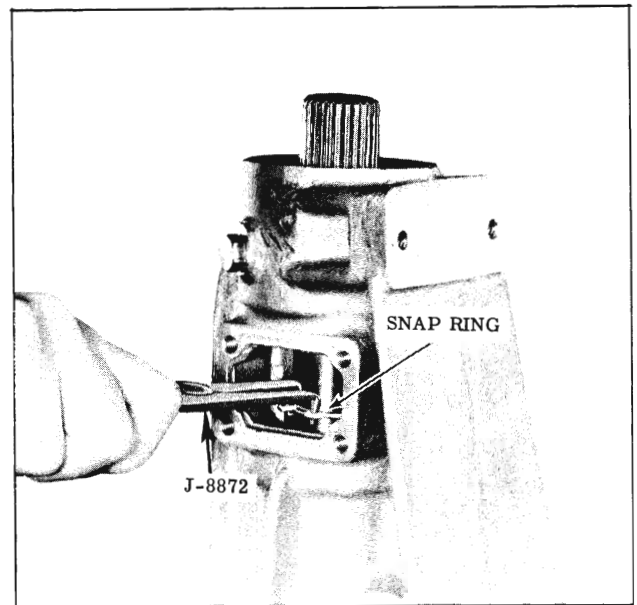

Fig. 3-107 Installing Snap Ring
7. Start rear bearing retainer down over output shaft and install rear output shaft snap ring through access hole and over end of output shaft while retainer is being carefully lowered over governor assembly. (Fig. 3-107)